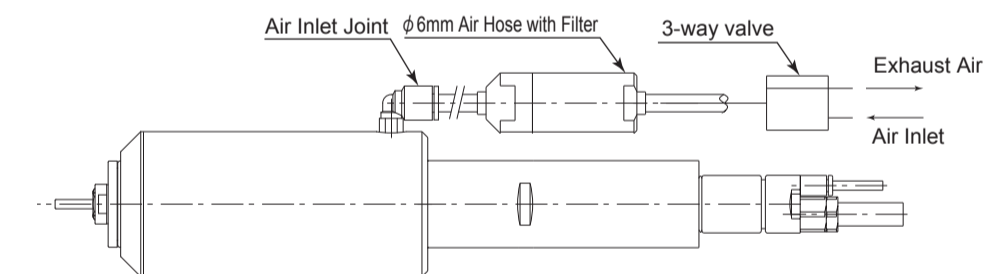

Fig. 3
- ① Connect the provided  $\phi$ 6mm Air Hose with Filter and 3-way valve to Air Inlet Joint shown in Fig. 3.
- ② Supply clean air from air compressor through air filter or air dryer to the 3-way valve at the set air pressure : from 0.55 - 0.6MPa.